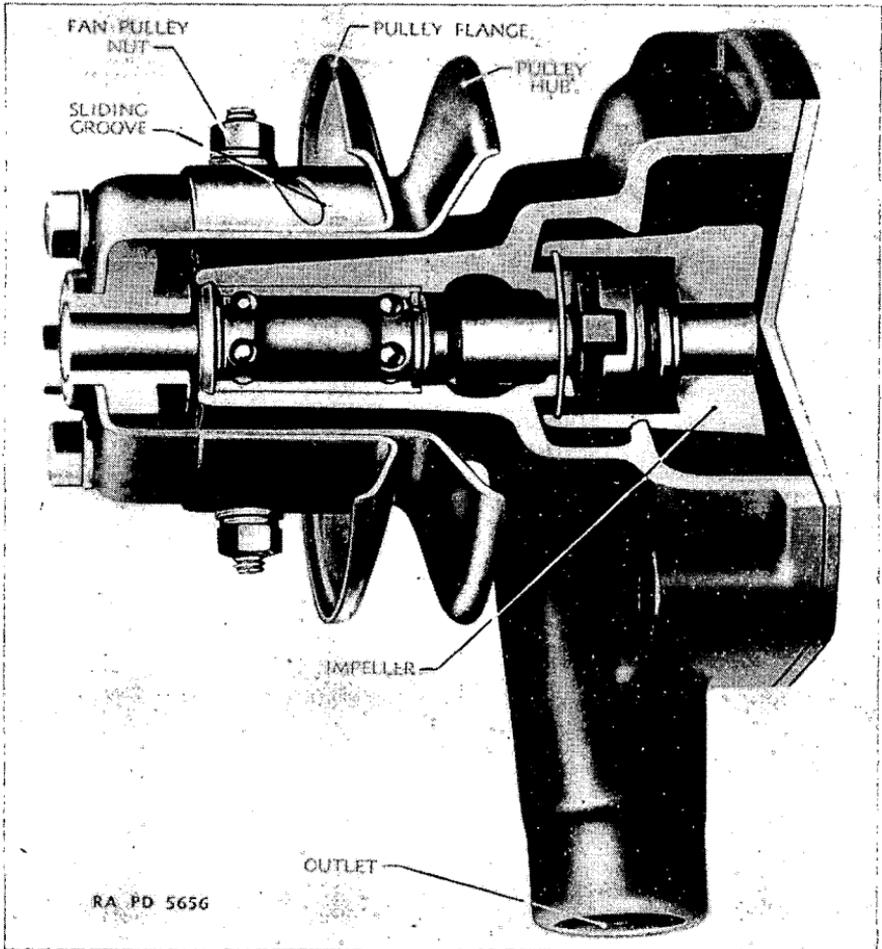

FIGURE 18.—Water pump showing fan belt tension adjustment on pump pulley—sectional view.
- (1) Loosen the two nuts on the fan pulley (fig. 18).
- (2) Grasp the pulley flange from the rear and turn it counter-clockwise; when desired tension is obtained, tighten the nuts on the pulley fan.
(3) Do not tighten the fan belt more than the amount necessary to prevent slippage.